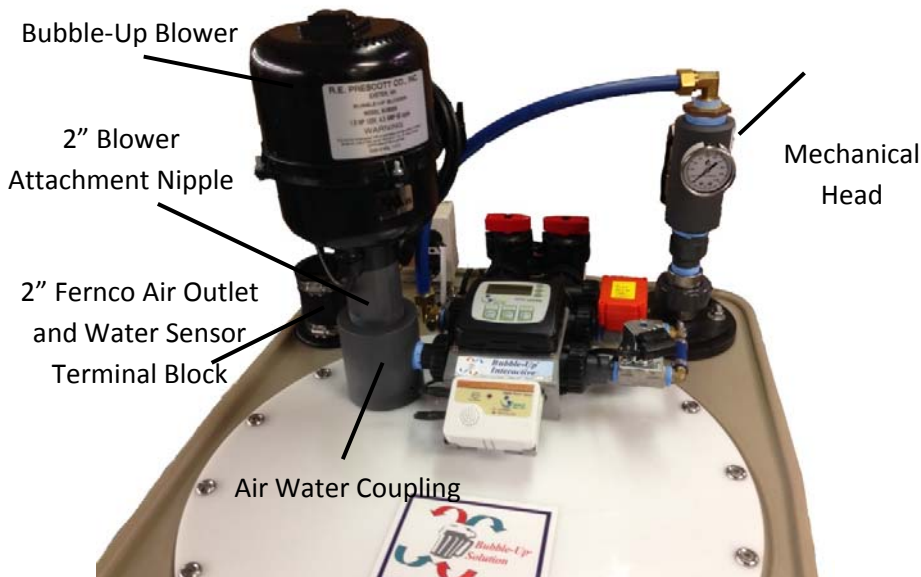
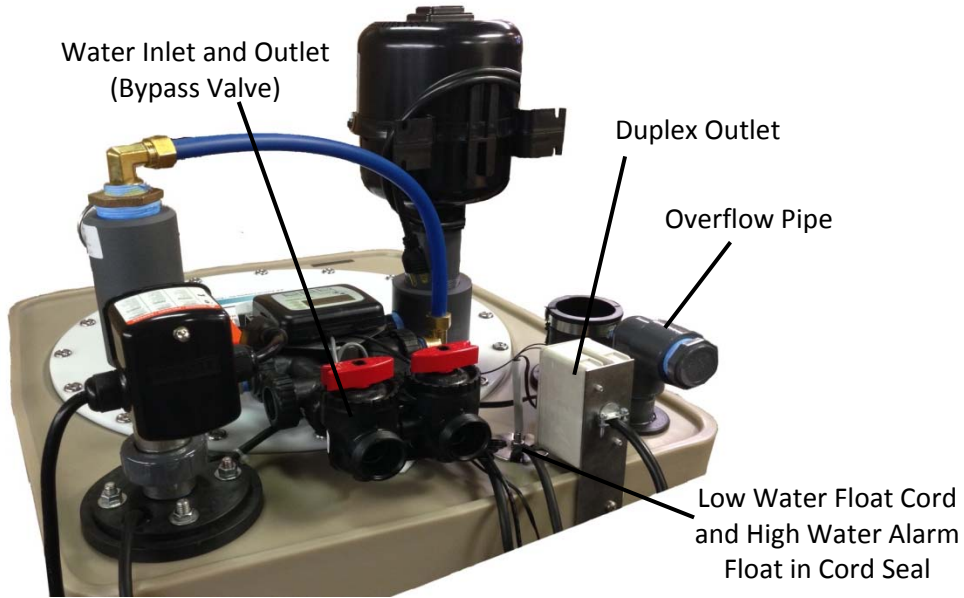

Figure 6 - Installation Points
Figure 7 - Installation Points
This valve has two red handles, and is located near the back of the unit. See Figure 7. The valve has two positions:
4. In case of a malfunction, the unit could overflow. The Bubble-Up® Interactive™ is fitted with an overflow pipe. (The overflow pipe is mounted near the rear of the unit. See Figure 7) Take this into account when positioning the unit. It is best if the unit can be positioned near a drain or sump pit with a sump pump.
5. Depress the high water alarm float so it is flush with the rubber cord seal. (Figure 6)
12. Pour one ounce of bleach into the blower attachment nipple to disinfect the unit. See Figure 6 for location of blower attachment nipple.
14. Plug in the following cords. Refer to figures 6, 7, & 8.
17. Plumb the mechanical pump control and plug pump cord into low water piggy-back float cord. Plug the low water piggy-back float cord into the female cord of pump control. See Figure 7.
Note: Water Sensor Terminal Block Connection: Connect the water alarm float wire (figure 6), water alarm control, and water alarm sensor wires to the terminal block (The terminal block is located next to the air vent figure 7). Connect one wire to the black connection of the terminal block and the other wire to the red connection of the terminal block. It is very important that this is a good connection.
7. Undo the water inlet line at the point where it meets the air-water coupling below the blower. See Figure 6.
5. Loosen the 4 nuts on the pump access seal. See Figure 6. Do not remove the top nuts so that the bolts do not fall into Bubble-Up® Interactive™ main water tank. Note that the direction of the float switch cord is towards the air-water coupling so that it can be re-installed in the same position.
The back of this manual shows the replacement parts on a Bubble-Up® Interactive™. Many are shown in Figures 6 through 14. Figure 13 and 14 show the parts included in the Retrofit Kit. This kit is used to upgrade a Bubble-Up® XP to a Bubble-Up® Interactive™. See dealer for more information regarding this Retrofit Kit. Here are some points to keep in mind when replacing parts: